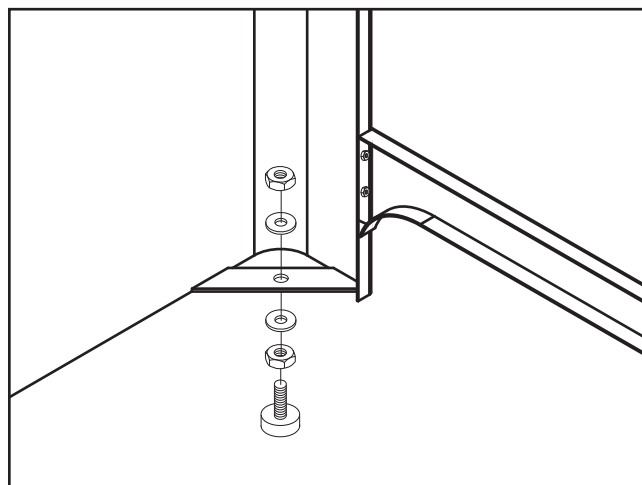

Figure 9. Rubber foot installation.
4. Install the rubber feet by threading on a $\frac{3}{8}$ -16 hex nut and 10mm flat washer, inserting them through the holes in the stands, and threading another $\frac{3}{8}$ -16 hex nut and 10mm flat washer as illustrated in **Figure 9**.